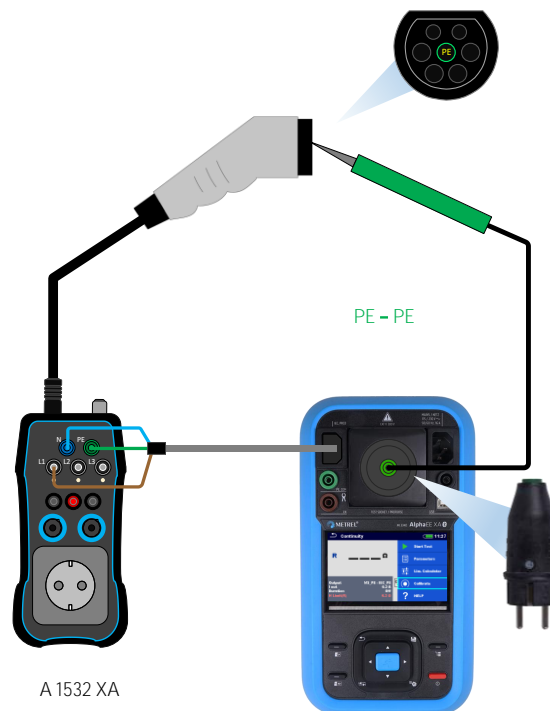

Figure 61_Test leads compensation
- Connect test leads according to the connection diagram Figure 61_Test leads compensation,